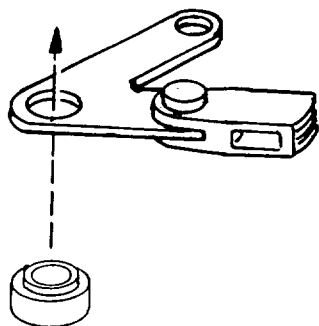

Fig. 61
1. The steel *spacer* has a smaller end that fits into the large hole on the *pivot arm/cam*. Snap the *spacer* in place. (Figure 61)